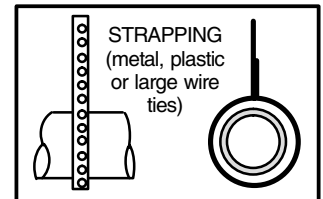
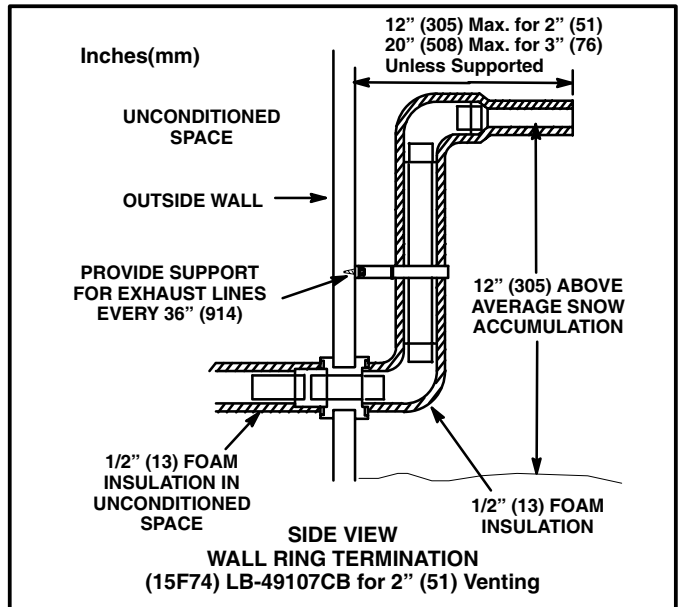

FIGURE 16
FIGURE 22
3. If exhaust piping must be run up a side wall to position above snow accumulation or other obstructions, piping must be supported every 3 feet (.9m) as shown in figure 16. Refer to figure 22 for proper piping method. When exhaust piping must be run up an outside wall, any reduction in exhaust pipe size must be done after the final elbow.